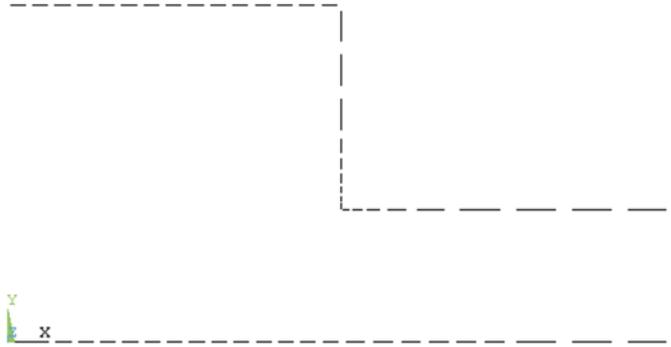

Fig. 9.50 Lines to be selected for convective boundary conditions
- *Pick Menu* appears; pick the exterior lines *except* the ones along $x=0$ (lines to be picked are shown in Fig. 9.50); click on **OK** in the *Pick Menu*.